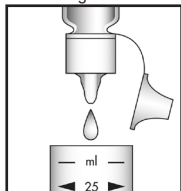

Figure 2
2. Add 5 drops of S-8000 solution (fig. 2). Stir to mix the contents of the cup.